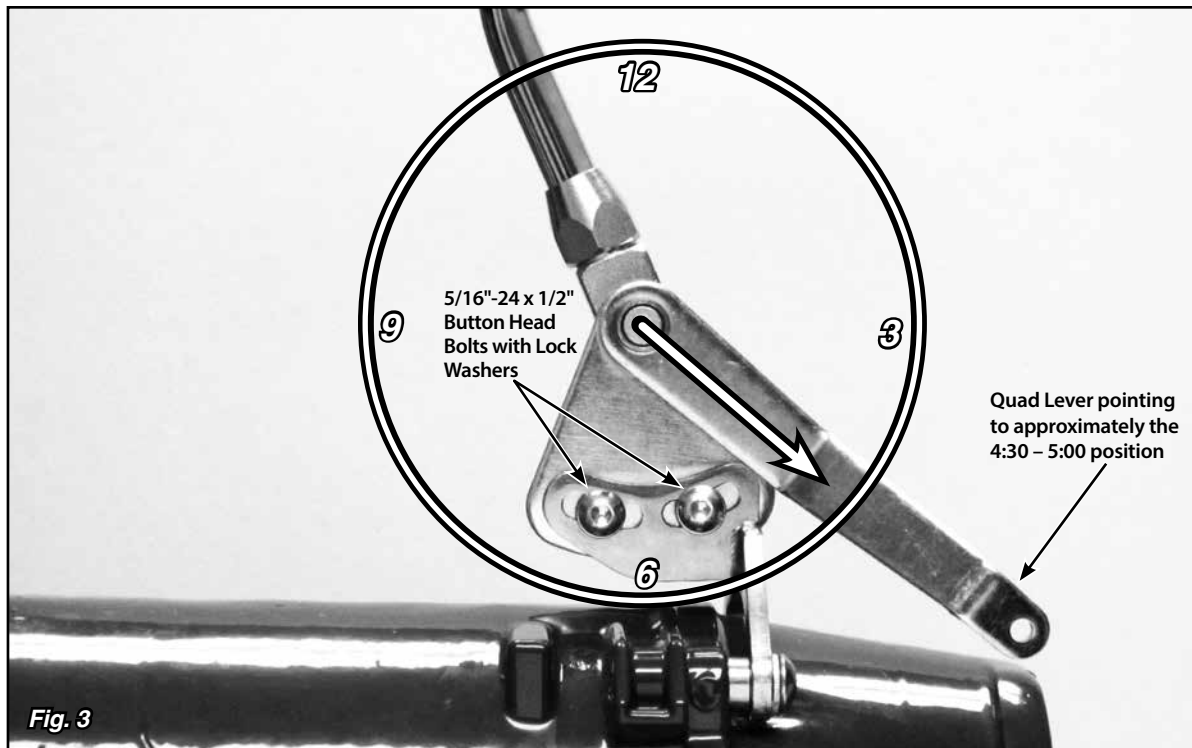

Fig. 3
Step 5: Insert the shifter assembly into the tailmount bracket so that the bolt holes line up with the curved, slotted holes in the welded banana brackets, and install four 5/16"-24 x 1/2" button head bolts with lock washers. **Fig. 3**
Step 7: Make sure the two 5/16"-24 x 1/2" button head bolts in the left side of the shifter assembly on the welded banana bracket are tight. Move the Shifter through all the gear positions. Make sure that the shifter lever and knob do not come in contact with the dash or the seat. The shifter assembly can be tilted forward or backward if needed by loosening the 5/16"-24 x 1/2" button head bolts in the welded banana bracket on the left side. Be sure to re-tighten the bolts in the welded banana bracket after adjusting the angle of the shifter assembly. **Fig. 3**
Step 8: Put the Shifter into the Park position and check the position of the quad lever. It will need to be pointing to about the 4:30 – 5:00 position. If it is not, loosen the set screw in the top of the quad lever with a 1/8" Allen wrench and slide the quad lever off of the shaft. Reposition it on the shaft at approximately the 4:30 – 5:00 position, and retighten the set screw. **Fig. 3**